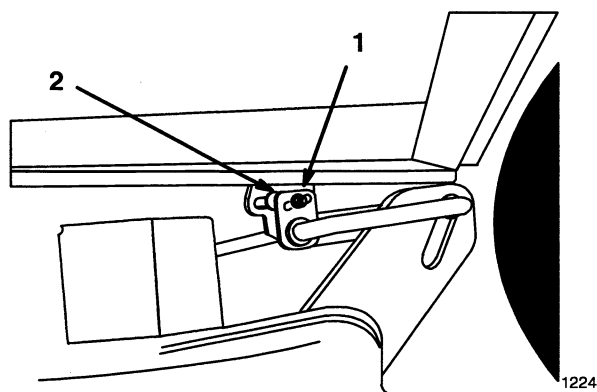

Figure 9
4. Loosen adjustment bolt on one side and rotate hanger bracket to raise or lower mower (Fig. 9).